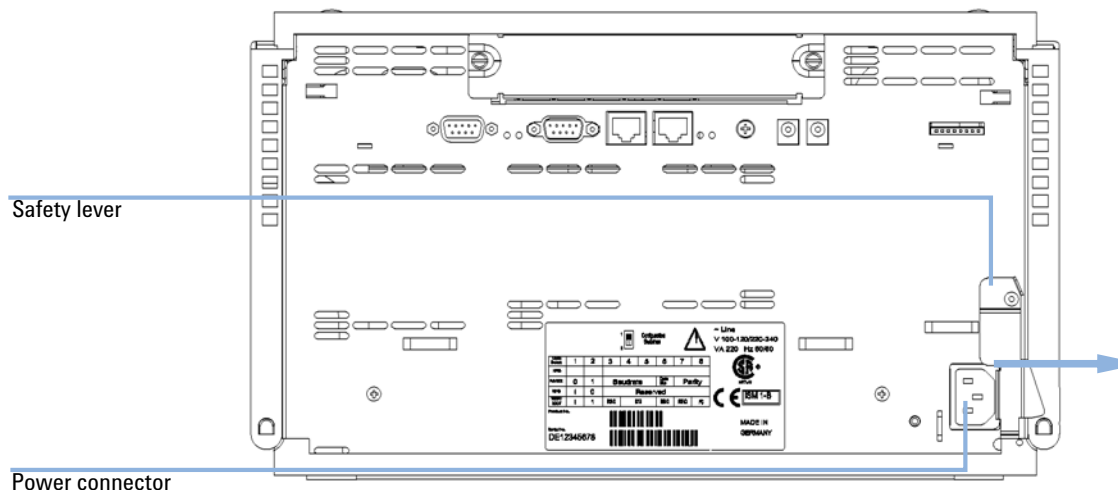

Figure 8 Power Connector and Safety Lever at Rear of the Preparative Pump
- 4 Connect the power cable to the power connector at the rear of the module (see Figure 8 on page 38).